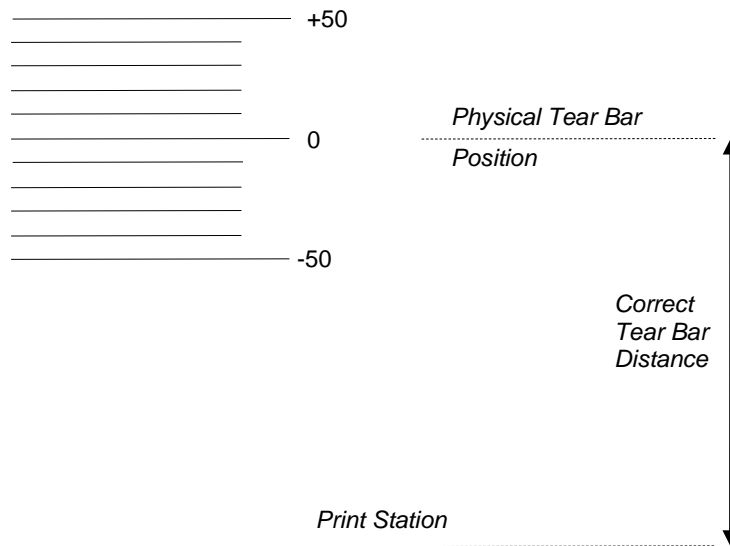

Figure 42 Correct Tear Bar Distance
9. Press **ENTER** to select the desired value. An asterisk appears next the selected value and a scale prints to indicate the tear bar distance in relation to the tear bar. For correct tear bar distance, the zero should align with the tear bar. See Figure 42.